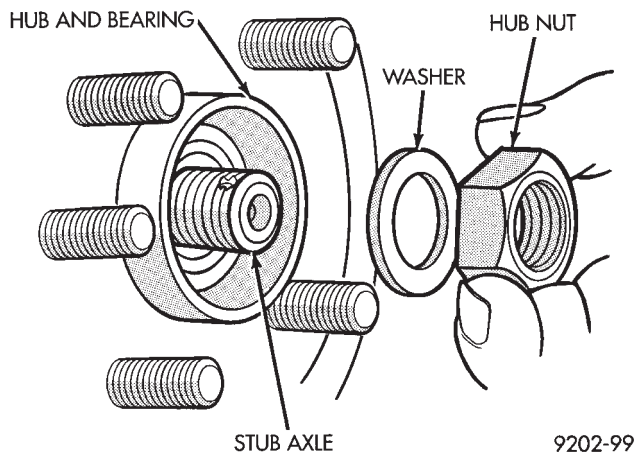

Fig. 17 Install Washer and Hub Nut
(11) Clean all foreign matter from the threads of the stub axle (Fig. 17). Install the washer and hub nut (Fig. 17) onto the threads of the stub axle and tighten nut.